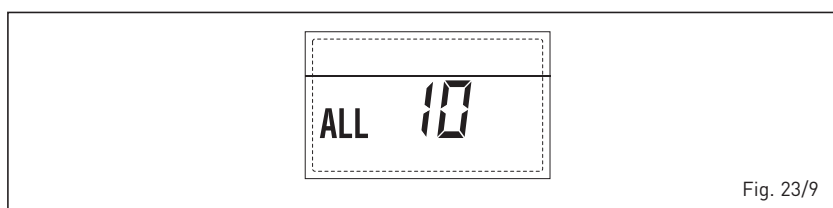

Fig. 23/9
– **INTERVENTO SONDA FUMI “ALL 13” (fig. 23/10)**